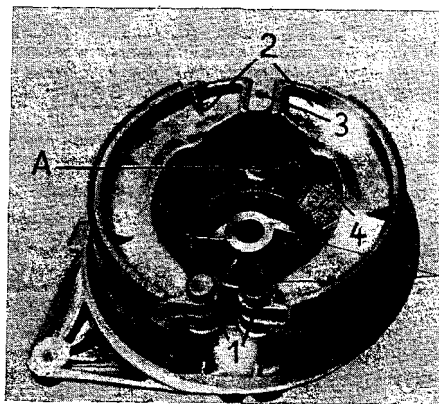

Fig. 123. Brake anchor plate, complete
The anchor bolts (1) tightly fit in the brake back rest. The brake shoes (2) are pivoted on the anchor bolts and the cam spindle (3) in the brake back rest (Fig. 123).